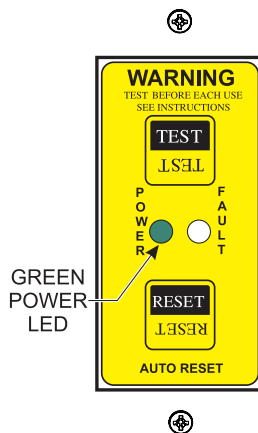

Figure 50. GFCI Sensing Module (Green LED ON)
3. On the GFCI sensing module, verify that the green power LED is ON (Figure 50).